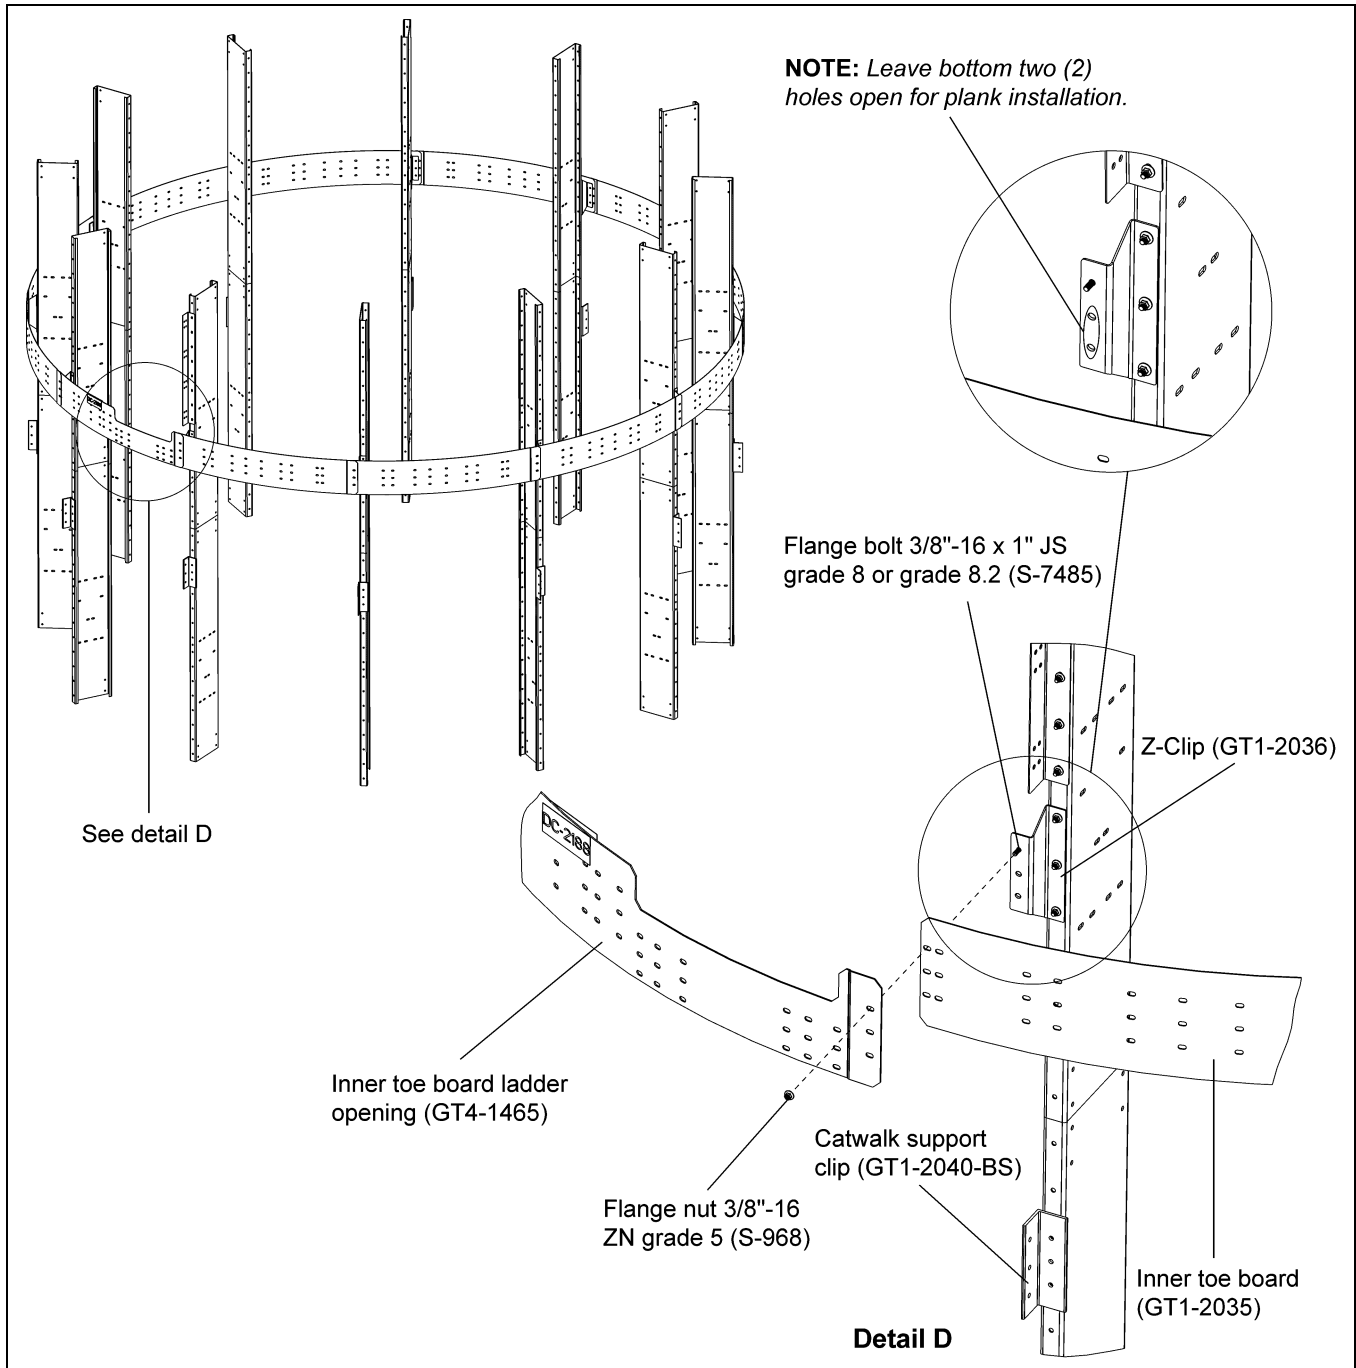
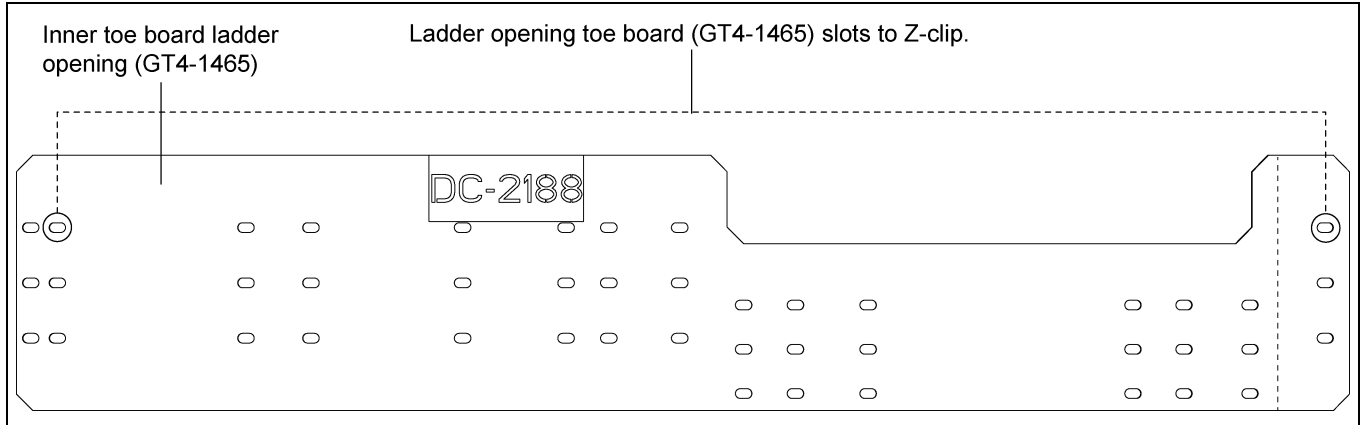

Figure 4G
Figure 4H 18' Ladder Opening Toe Board (GT4-1465)
1. Install the inner toe board (GT1-2035) to the Z-clips (GT1-2036). All toe boards should be installed between the Z-clips using 3/8"-16 x 1" JS grade 8 or grade 8.2 bolts (S-7485) and 3/8"-16 ZN grade 5 nuts (S-968). (See Figure 4G.)
2. At the ladder location, install the ladder opening toe board (GT4-1465) to Z-clips using 3/8"-16 x 1" JS grade 8 or grade 8.2 bolts (S-7485) and 3/8"-16 ZN grade 5 nuts (S-968) in such a way that toe board opening falls on the ladder path. (See Figure 4G below and Figure 4H on Page 18.)